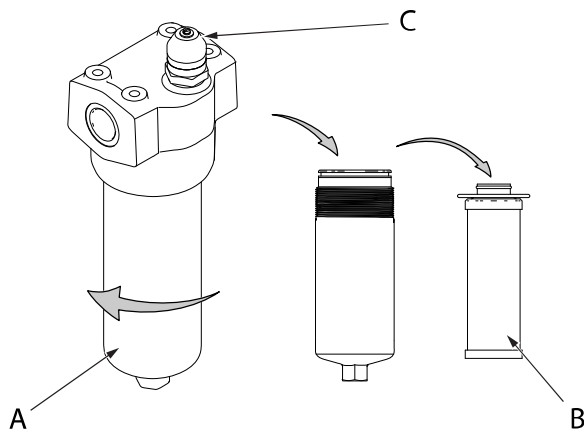

Figure 12.28
The hydraulic oil filter has to be changed when the indicator (C) on the filter indicates that it is time for replacement, see “Figure 12.28”.